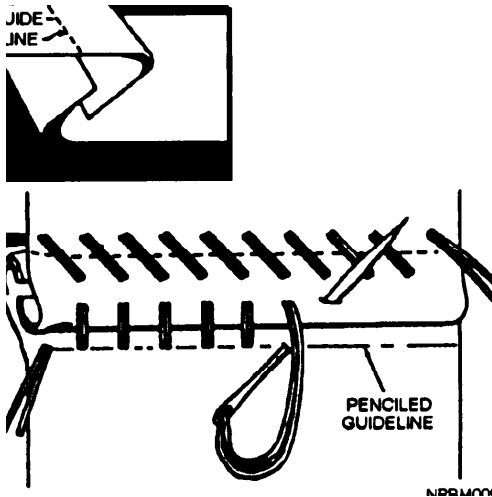

Figure 3-14.—Flat stitch.
- **Flat stitch.** A flat stitch is used when a strong seam is required, as on a paulin or a sail. Pencil a guideline 1 1/2 or 2 inches from the edge of each strip of canvas, depending on how wide you want the seam. Crease each piece on a line slightly less than halfway to the guideline. Make the folds away from the guidelines and interlock the folds (fig. 3-14). Interlocking the edges forms a watertight seam and keeps a ragged edge from showing. Insert the needle at the guideline, and stitch diagonally so that the stitches appear at right angles to the seam on top but run at an angle on the reverse side. After completing one edge, turn the canvas over and sew the other edge of the seam. Flat stitching also is used for patching.
A seabag may be any size desired, but 1 foot in diameter and 36 inches in length is about average. Use No. 4 weight canvas that is wide enough for the length of the bag plus an allowance for seams, to avoid sewing an extra seam. A 40-inch width is adequate. Cut a length equal to 3.14 times the diameter of the bag plus 3 inches for the seam. Fold back one-half inch at each end and draw a line 1 inch from each fold. Lap the ends and flat stitch each fold to the opposite part along the penciled line as in figure 3-14.